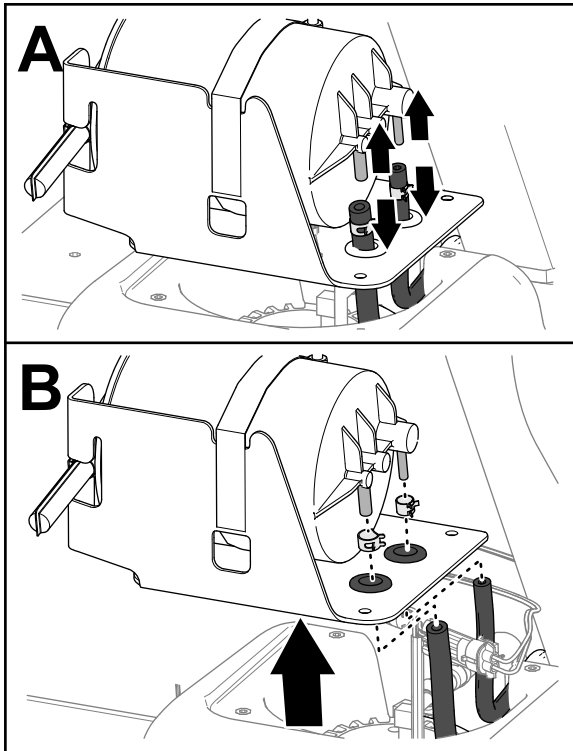

Figure 73
4. Separate the hoses from the fittings (Figure 73).
5. Remove the hose clamps from the hoses (Figure 73).
6. Remove the carbon canister from the fuel tank (Figure 73).